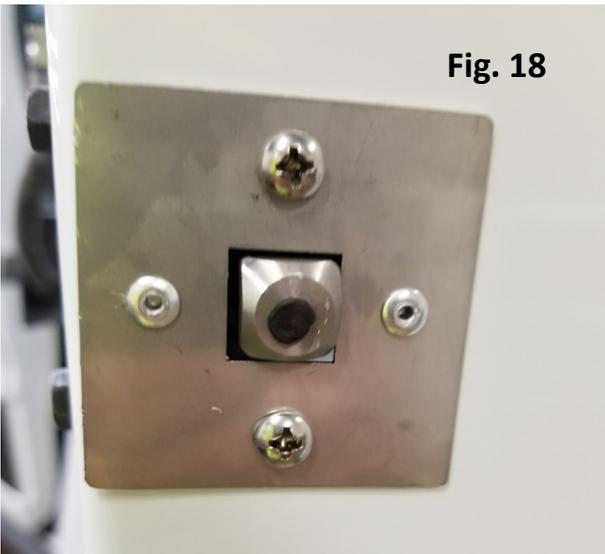

Fig. 18
23. Then feed wire through the door panel and re attach door panel. Then attach the key ring to the loop. Fig. 18
23. Take a small piece of butyl tape and place on the center of the deadbolt. Fig18